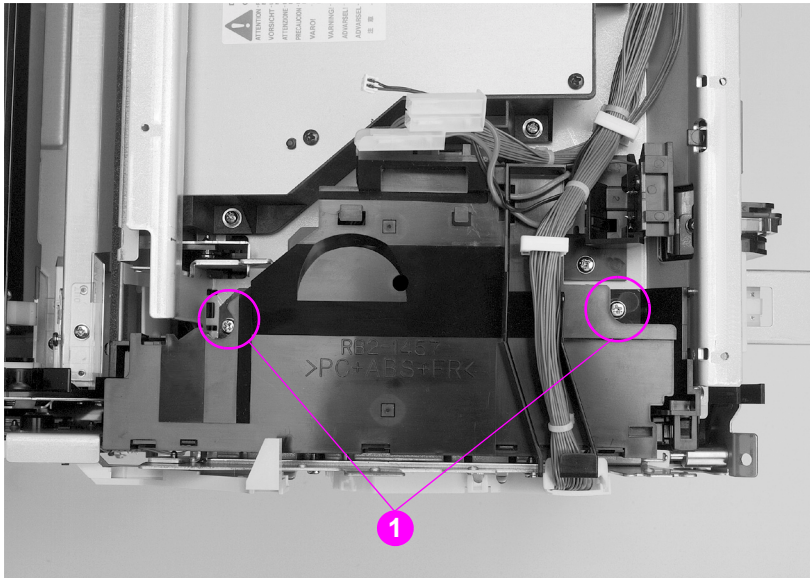

Figure 6-21 Drum drawer (top drawer) assembly removal and replacement (1 of 3)
- 9 Remove the two screws from the black plastic housing shown in callout 1, Figure 6-21.